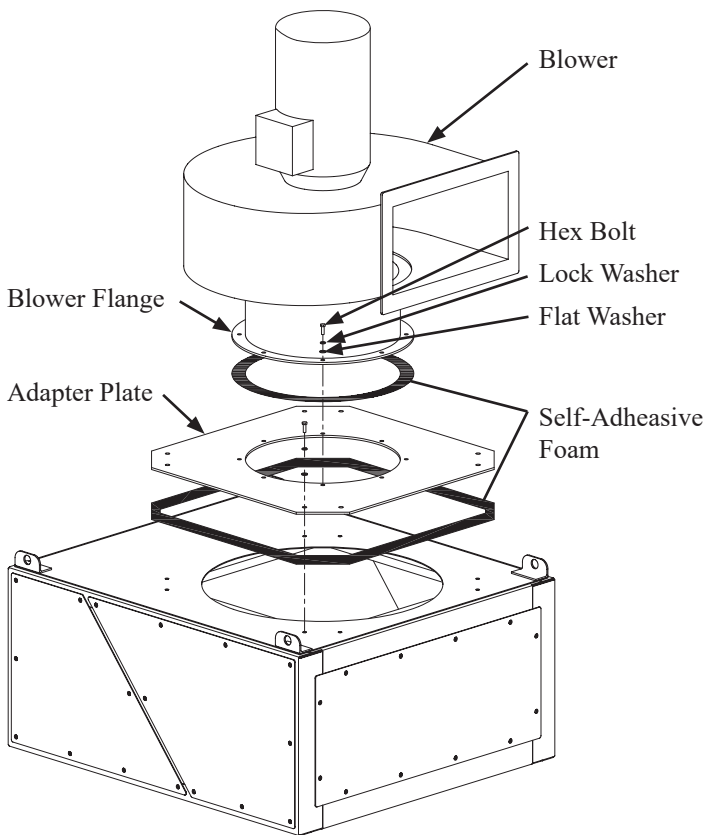

FIGURE 10
1. Apply self-adhesive foam to the bottom side of the blower flange (Figure 10).
Note: In most installations the adapter plate will arrive installed on the unit. In the event it needs relocated to another module see figure 10.